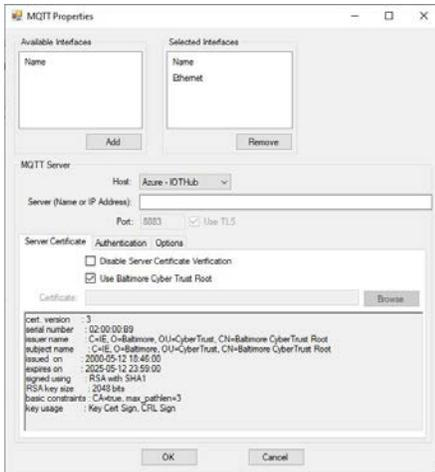

Figure 28-6A
- b. Server Certificate tab. Refer to Figure 28-6A.